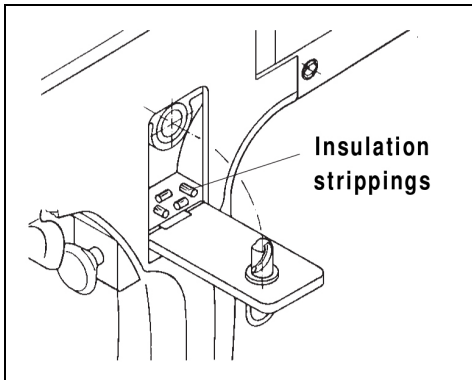

Fig. 16: Removal of Container
2. Remove insulation strippings once a day (Fig. 16).